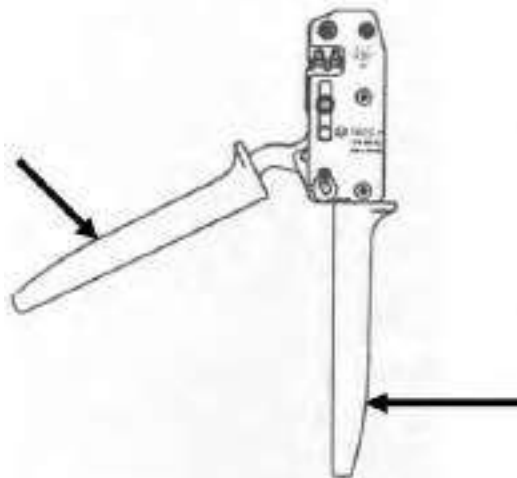

Figure 84
- (3) Press plier handles together up to stop (Figure 84).